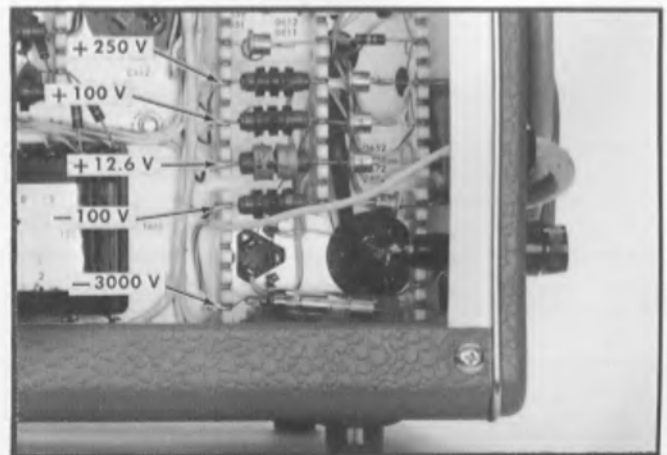

Fig. 6-4. Location of power supply test points.
- b. Set the DC voltmeter (item 2 of Recommended Equipment) to the appropriate scale, and connect the leads to the Type 503 chassis ground and the —100 volt test point (see Fig. 6-4 for test point locations).